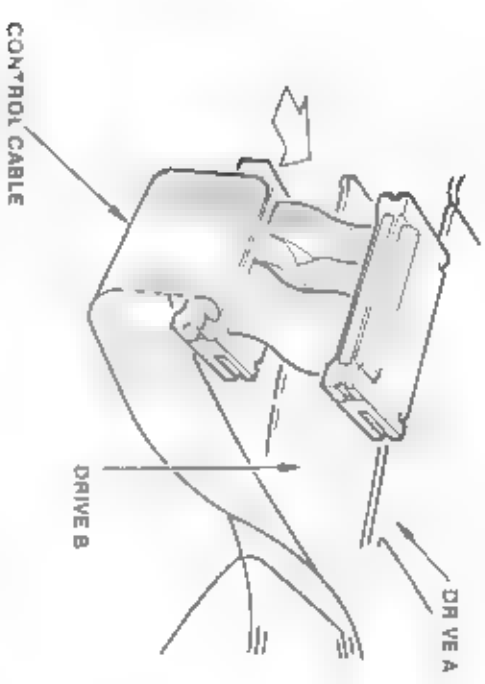

Figure 11-12 Diskette Control Cable
2. Attach the wide control cable connector to drive B (Figure 11-12).